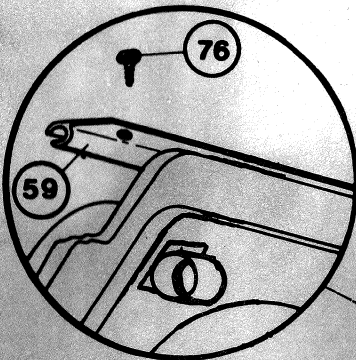

FIG. 4
5. Drill 1/8" holes on top of the windshield to install the two-piece aluminum retainer (No. 59) with the No. 10 x 1/2" metal screws (No. 76) provided. (See fig. 4.) Make sure the pieces are centered, and that the opening is facing forward and down.